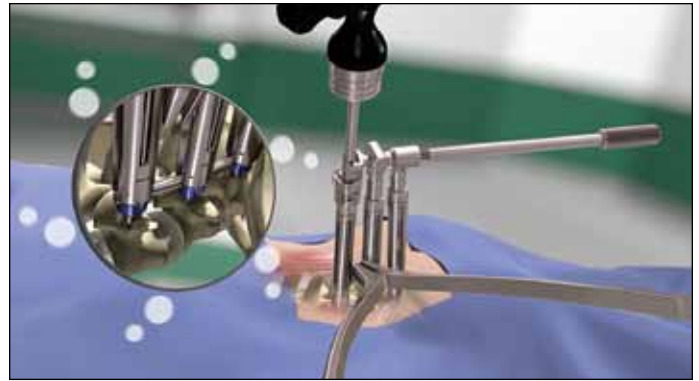

FIG. 36
- Distract the extensions to the desired level. (FIG. 36)